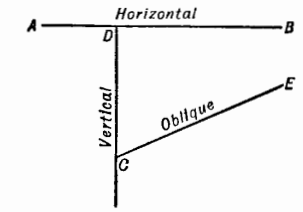

Fig. 22
11. *Inclined or Oblique Lines* occupy an intermediate position between vertical and horizontal lines. In Fig. 22, A B represents a horizontal line, C D a vertical line and C E an oblique line.